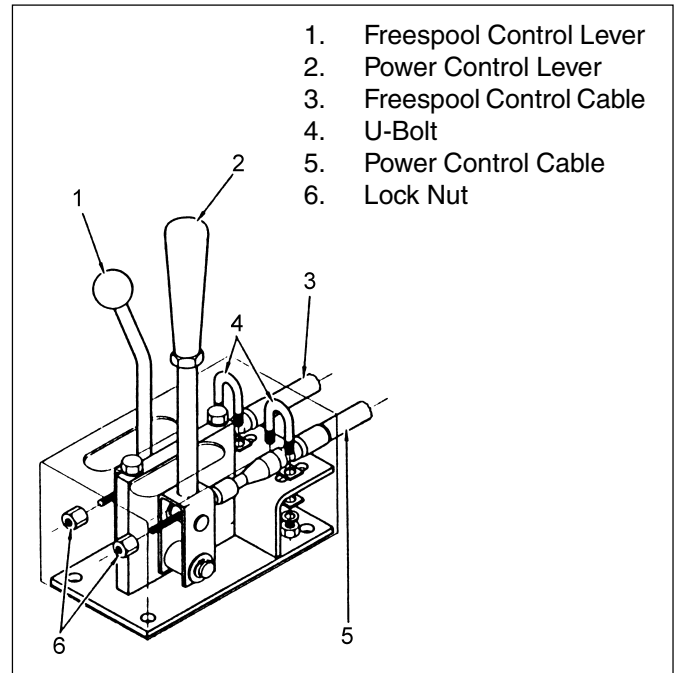

Figure 8 - Control Cable Adjustments
**A.** See Figure 8. Make sure the positions of the power control lever (Item 2) are the same as the position indicators on the control housing. Remove the two capscrews and raise the cover. Loosen the U-bolt (Item 4) that holds the power control cable (Item 5) in the housing to adjust the hand lever.